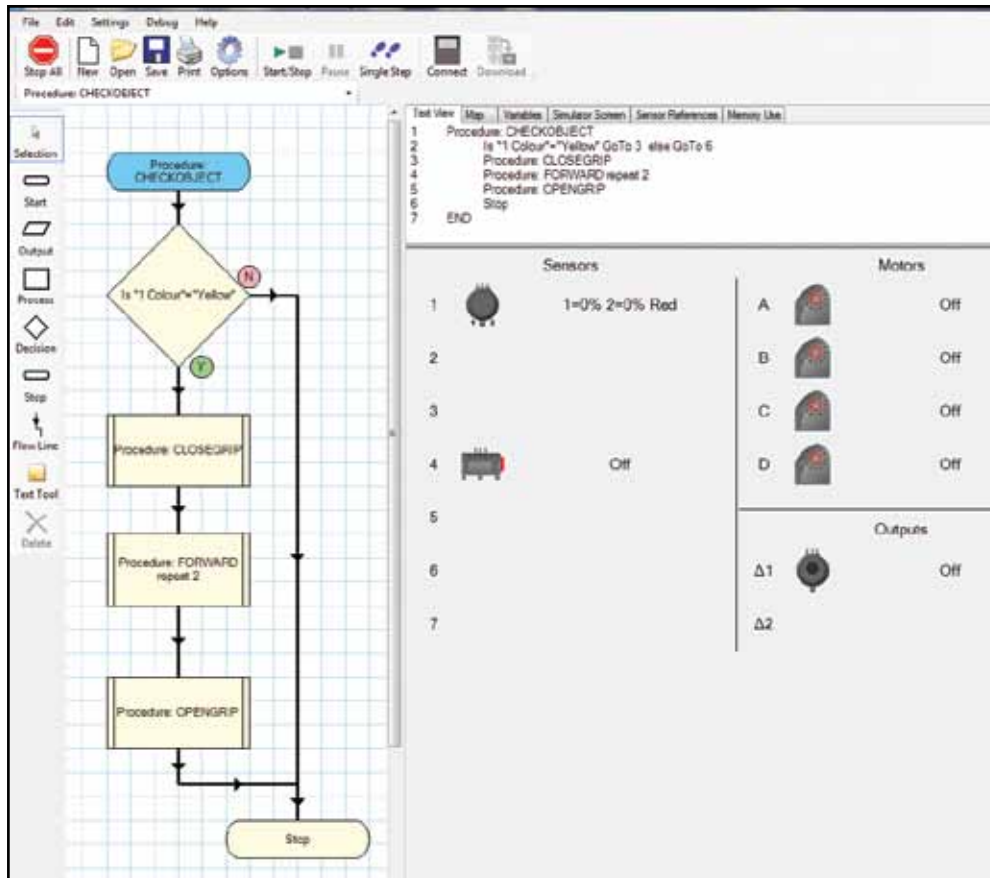

Figure 4a: Procedure "CHECKOBJECT".
Figure 1 (main program) shows a flow logic where the block with the procedure "CHECKOBJECT" is activated. Figure 4a shows the details of the flowchart logic for the "CHECKOBJECT" procedure.
- As seen in Figure 4a, the Color/Light Sensor controls the function of the hand grip. (Later when you run the program, you will place a yellow ball in front of the Color/Light Sensor.) "If" the sensor identifies the color yellow, "then" it means the yellow K'NEX ball is ready to be grabbed and the procedure "CLOSEGRIP" is activated.
- After the ball has been grabbed, the Figure 4a logic shows that the procedure "FORWARD" is activated and the Robot walks forward for a few steps. (This is the same "Forward" procedure you used earlier except the number of repeats has been changed to 2.) When the Robot stops walking the procedure "OPENGRIP" is activated and the ball is released.